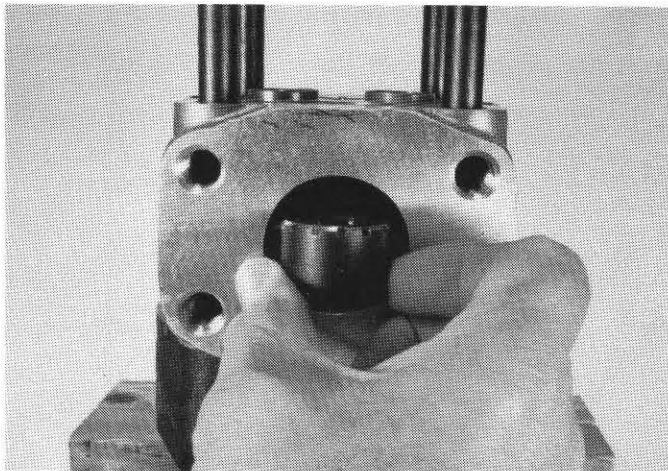

FIG. 29
39. Lift the plate and turn it over so the o-rings just installed now face down. Align the matching marks on bearing plate (3) and gear plate (2) and slide the bearing plate down the shafts until it contacts the dowels. Place coupling (17) in the suction port and line it up with the splines on the drive gear shaft. If the shaft extends too far into the suction port to allow the coupling to match up with the spline, lift the bearing plate slightly. This will allow the coupling to slide over the end of the shaft. (Fig. 29)